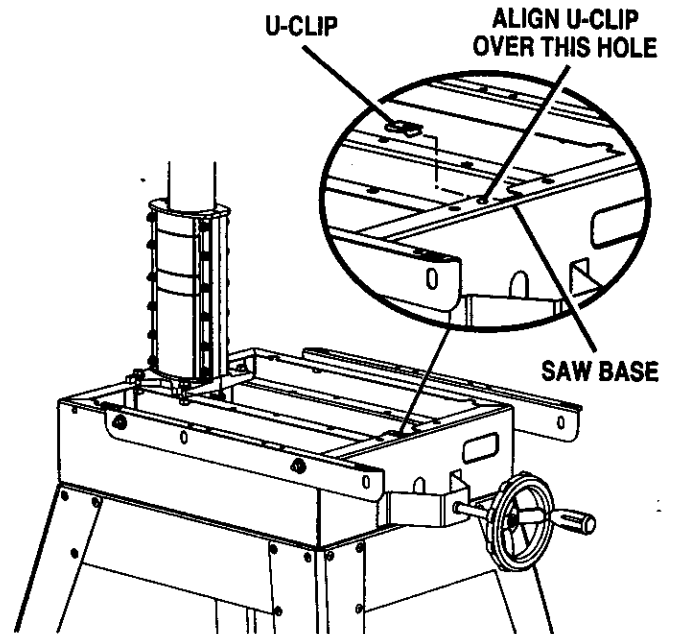

Fig. 23B
- Snap the U-clip onto the front edge of the saw base. Line up the hole in the U-clip with the saw base hole just to the left of the center notch in saw base. See Figure 23B.